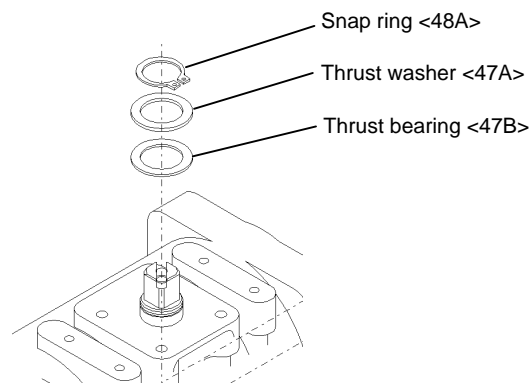

Fig.11
- (9) Remove a snap ring (with snap ring pliers), a thrust washer and a thrust bearing from the shaft (Fig.11).